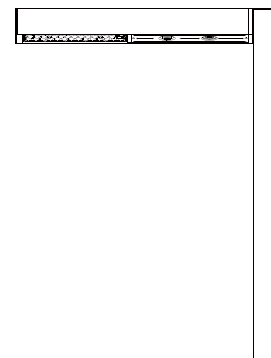

Fig. 8
5. After the assembly is completed, the finished product of the lamp body is shown in Fig. 8.